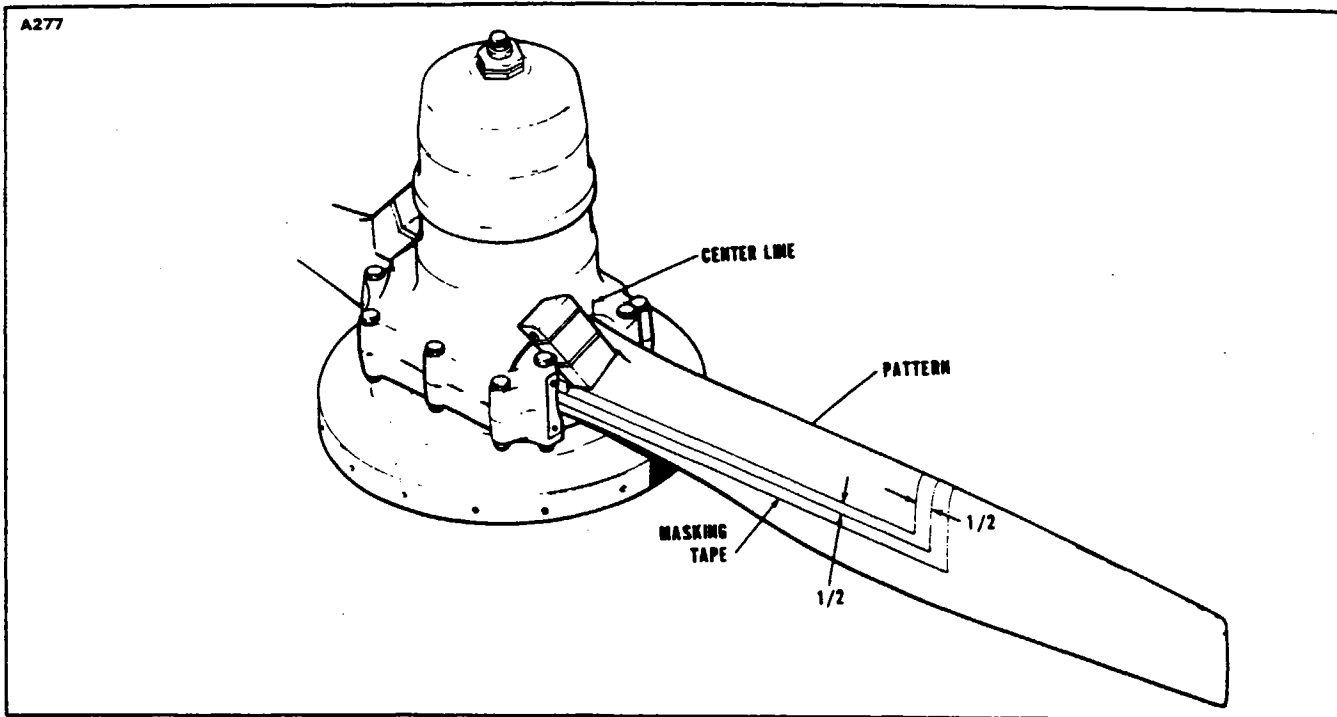

Figure 14-12. Installation of Deicer Boot
- a. Mark and cut from masking tape a pattern the size of the propeller deicer. (Refer to Figure 14-12.)
- a. When the cement coats are tacky (slightly sticky to the touch-like masking tape), dry on both the propeller surface and deicer surface, position deicer on blade leading edge. Start at hub end, using centerlines as a guide. (Refer to Figure 14-12.)